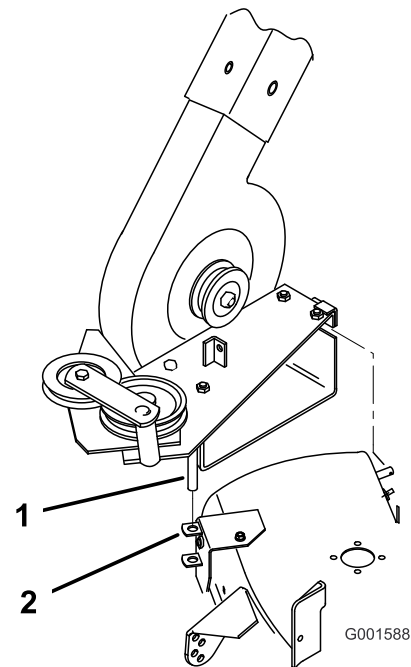

Figure 30
2. Remove the blower by lifting the pivot pin out of the pivot support (Figure 30).